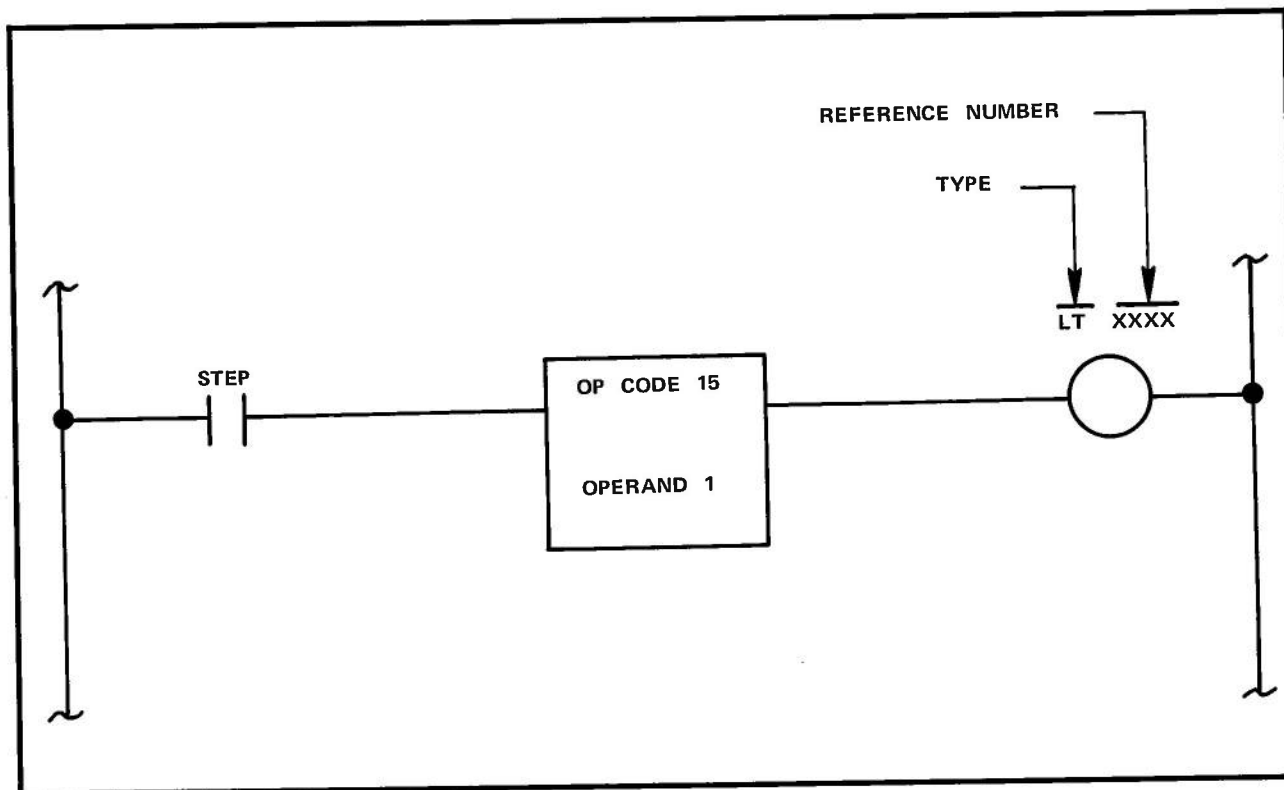

Figure 1. Continuous Group Select (CG)
The Continuous Group Select (CG) function allows the user to change a transitional function, or group of transitional functions, to continuous operation. When the step contact closes, the specified coil or output group in the operand operates on every scan if enabled. CG function symbology is shown in Figure 1.